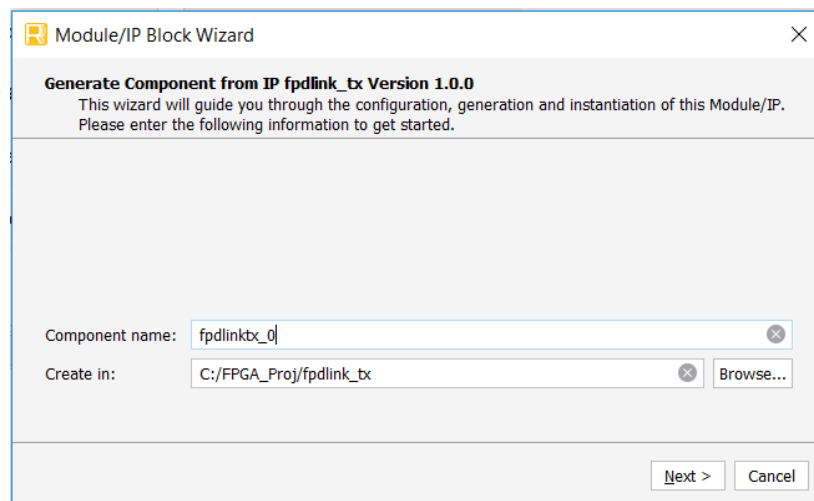

Figure 3.1. Module/IP Block Wizard
2. In the **IP Catalog** tab, double-click **FPD-Link Transmitter** under the **IP, Audio\_Video\_Image\_Processing** category. The **Module/IP Block Wizard** opens as shown in Figure 3.1.
- Click the **Finish** button. All the generated files are placed under the directory paths in the **Create in** and **Instance name** fields shown in Figure 3.1.